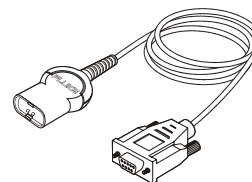

Fig. 1. PM9080
- PM9080 Optically Isolated Interface Cable (Fig. 1)
Before you connect the PM8907/808 to the local line, first check the preselected voltage on this unit. You can find the voltage selector switch on the bottom of the PM8907/808. If necessary, select the corresponding line voltage with the slide switch. Ensure that the proper voltage is visible in the window of the slide selector. (see Figure 1.)